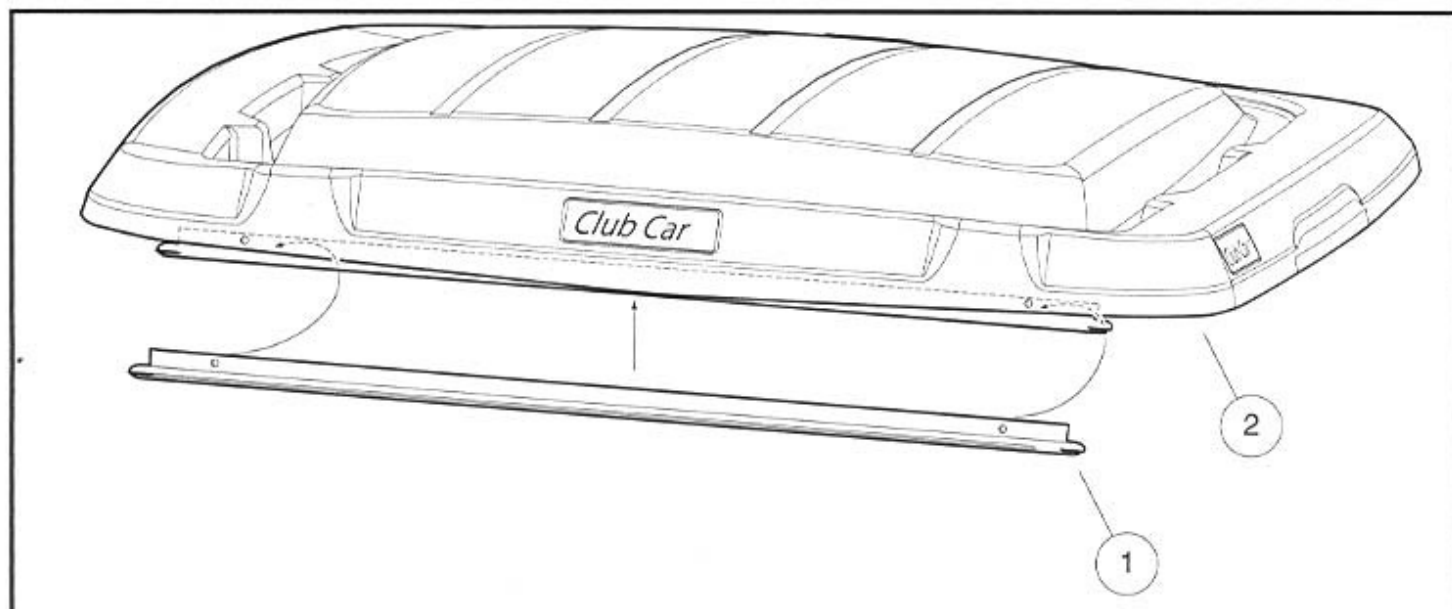

Figure 3 Position the Tracking Bar
- 2.1. Position and center the tracking bar (1) to the inside of the canopy (2) as shown (Figure 3). See following NOTE.